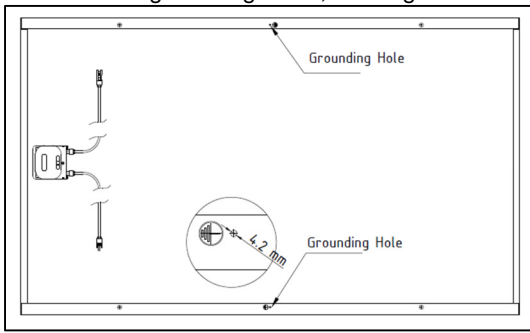
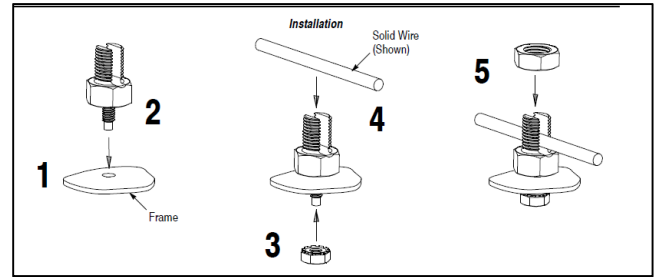
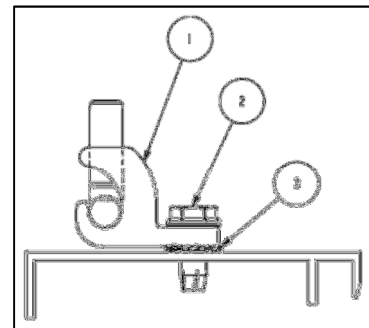
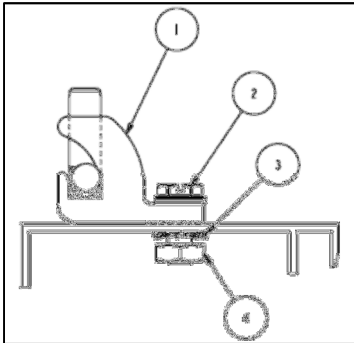

Figure 3: Grounding Hole Location
Figure 6: Solklamp Grounding Bolt Diagram
Figure 7: Self Threaded Grounding Lug: Grounding Diagram
Figure 8: Grounding Lug with Nut: Grounding Diagram
Figure 3 that are marked by the grounding symbol. . The flange on which the grounding hole is located
Attach the grounding conductor to the module frame through at least one of the two grounding holes, See Figure 3.
The grounding clip manufactured by Tyco Electronics Corp. (Part number: 1954381-1) is UL listed and designed for module grounding applications using a solid 10 to 12 AWG un-insulated ground wire. It is attached to grounding hole on module frame, Figure 3, by an integrated, 10-32 in. self-tapping screw. Place the grounding clip onto the frame, making sure that the screw straddles the grounding hole. Using a No. 2 cross-recessed screwdriver, thread the screw into the hole until the head is flush with the base and the base is flush with the frame, then tighten the screw with another 1/4 to 1/2 turn. Recommended torque is between 20 in-lb (2.3 N-m) for screw. Insert the wire into the wire slot. Press down on both ends of the wire (the wire slot will cause the wire to form a slight curve). Manually, or using channel lock pliers, push the slider over the base until it covers the base. This will terminate the wire.
grounding applications using a solid 6 to 12 AWG un-insulated ground wire. It is attached to grounding hole on module frame, Figure 3, by an integrated, 8-32 in threaded post and nut. Locate the grounding hole on the underside of the module frame (1). Insert the threaded post end of the wire bolt into the hole (2). Finger-tighten the hex washer nut onto the threaded post (3). Position the grounding wire into the wire slot (4). Finger-tighten the nut onto the wire slot end until wire is compressed (5). Using a 9/16" open end wrench to hold the hex body of the wire bolt, and using a 9/16" socket wrench, tighten the mounting hex washer nut (3) to a torque of 25 in-lb (2.82 N-m). While holding the hex body, use an 11-32" socket wrench to tighten the wire binding hex nut (5) to a torque of 45 in-lb (5.08 N-m). See Figure 6.
The grounding bolt manufactured by IlSCO (Part number: GBL-4DBT) and bolt manufactured by Burndy (Part number: CL501TN) are UL listed and designed for module grounding applications using a solid 4 to 14 AWG un-insulated ground wire. Locate module grounding hole, Figure 3. Assemble a #10 stainless steel star washer (1) and #10-32 self-tapping screw (2) through grounding lug (1) and into the module grounding hole until washer and lug are flush with frame as shown in Figure 7. Using a 5/16 in. open ended wrench to tighten the screw (2) another 1/4 to 1/2 turn with recommended torque between 20 and 25 in-lb (2.3 and 2.8 N-m). Insert grounding wire into conductor slot of lug and tighten threaded set screw using a 5.5 x 0.8 mm (3/16 x 0.025 in.) flat headed driver to the torque specified in Table 1 to compress the conductor.
The grounding bolt manufactured by Burndy (Part number: CL501TN) is UL listed and designed for module grounding applications using a solid 4 to 14 AWG un-insulated ground wire. Locate module grounding hole, Figure 3. Using a 5/16 open ended wrench, thread #10-32 self-threading screw through the grounding hole to open up the hole size and remove. Assemble a #10-32 bolt (2) through the grounding lug (1) and into the module grounding hole. Install a # 10 stainless steel star washer (3) and hex nut (4) around the frame until washer and lug are flush with frame, as shown in figure 8. Using two 5/16 in. open ended wrenches to tighten the screw (2) and bolt (4) another ¼ to ½ turn with recommended torque between 20 and 25 in-lb (2.3 and 2.8 N-m). Insert grounding wire into conductor slot of lug and tighten threaded set screw using a 5.5 x 0.8 mm (3/16 x 0.025 in.) flat headed driver to the torque specified in Table 1 to compress the conductor.